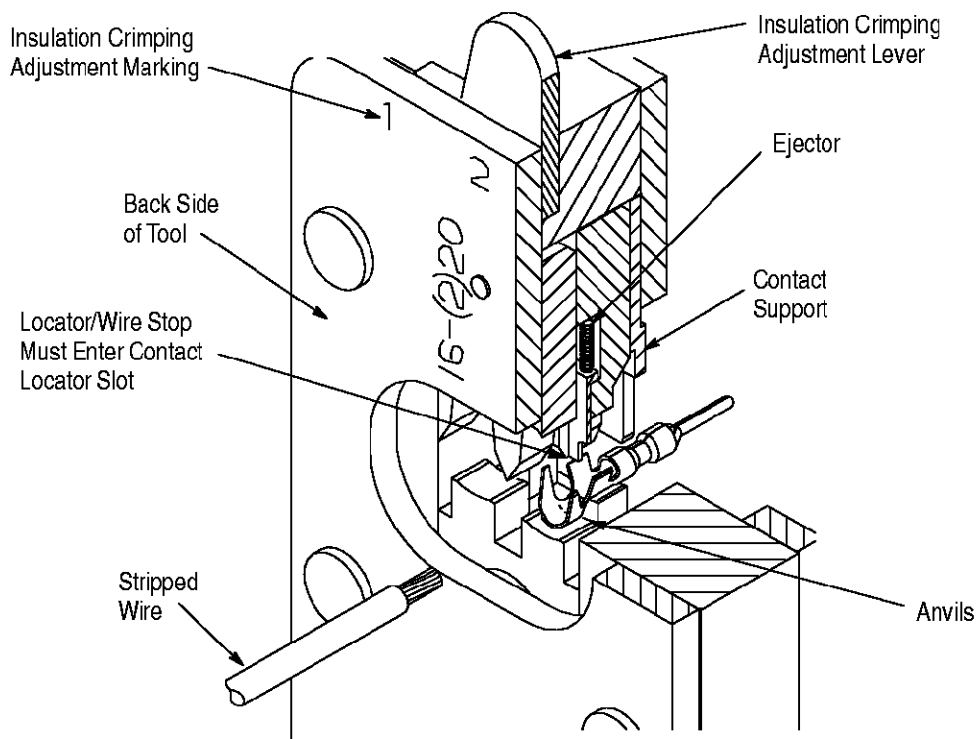

Figure 3
3. Insert the contact insulation barrel from the FRONT side of the tool into the crimping chamber. Position the contact on the anvils so that the locator/wire stop enters the contact locator slot. Make sure that it is flush with the edge of the die. See Figure 3.
1. Slide the insulation crimping adjustment lever to Position 3 (marked on the back side of the tool). Refer to Figure 3.